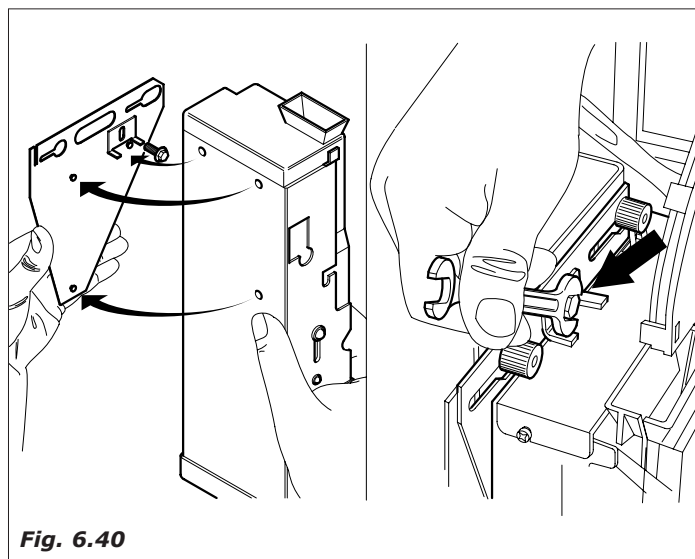

Fig. 6.40
- hook the coin mechanism on to the support brackets (Fig. 6.40)